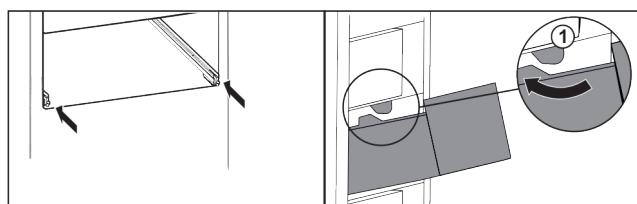

Fig. 42
- Guide the drawer around the stoppers Fig. 42 (1).